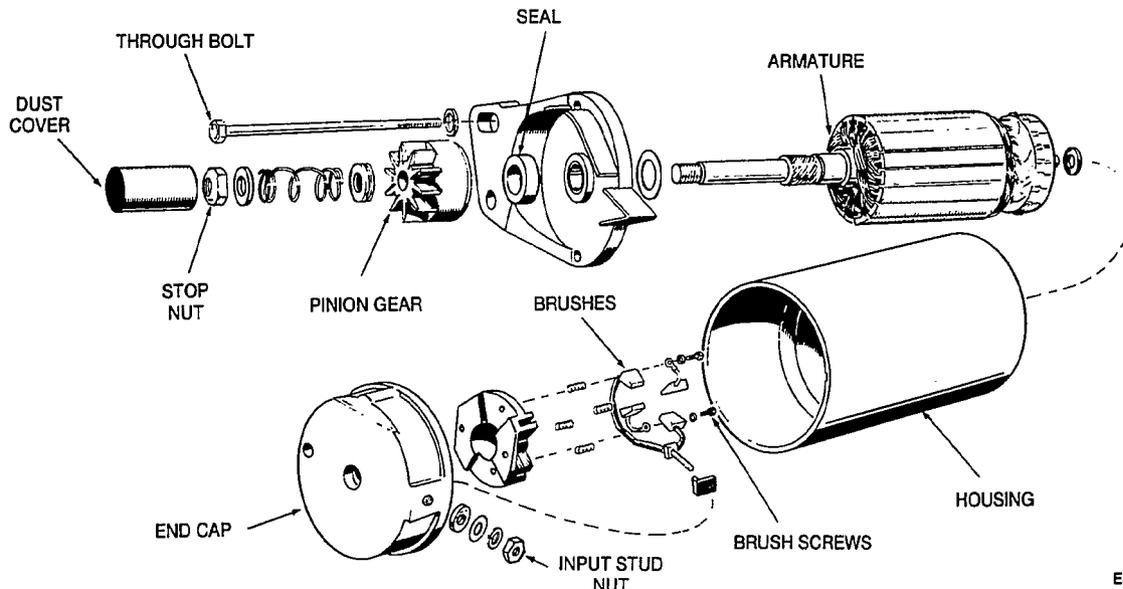

FIGURE 1. STARTER MOTOR (INERTIA TYPE)
1. Remove through-bolts and separate end cap, housing, and armature (Figure 1).